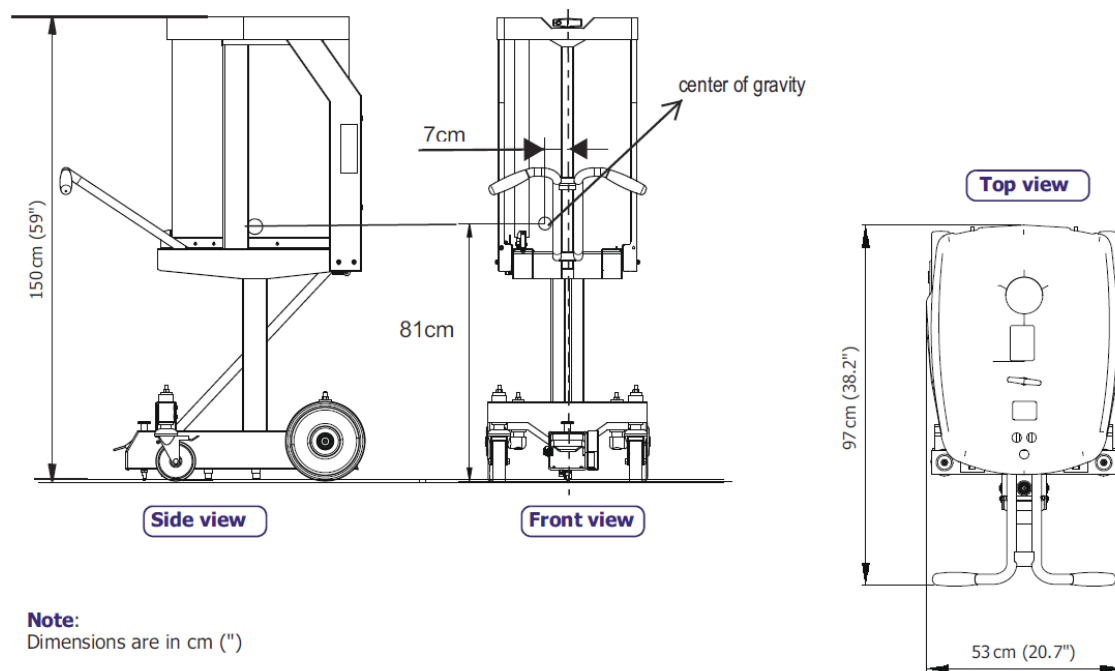

Figure 2-4: B615 Collimator Cart
- Figure 2-4: B615 Collimator Cart, p.2-6